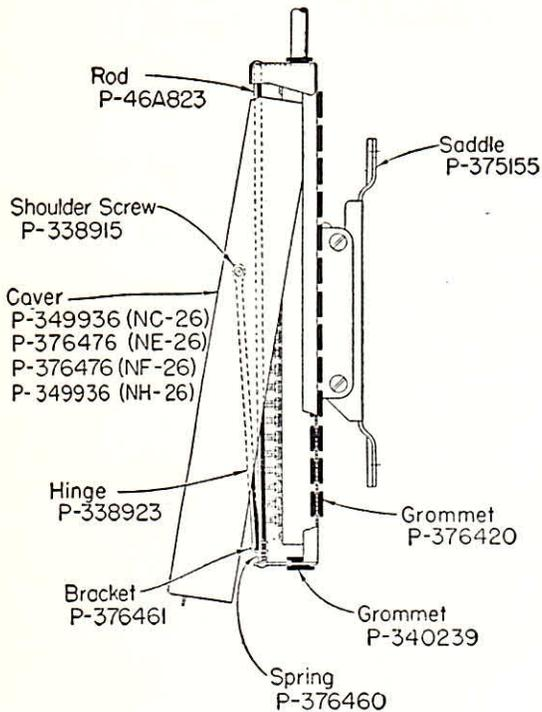

Fig. 6
- (2) Assemble the component parts of the cover on new P46A823 rods as shown in Fig. 6.
- (3) Place the rods of the new cover assembly in the holes of the housing which were vacated with the removal of the old rods.
- (4) Secure the new rods to the housing by upsetting the ends with a hammer held against one end while striking the other end with a second hammer.